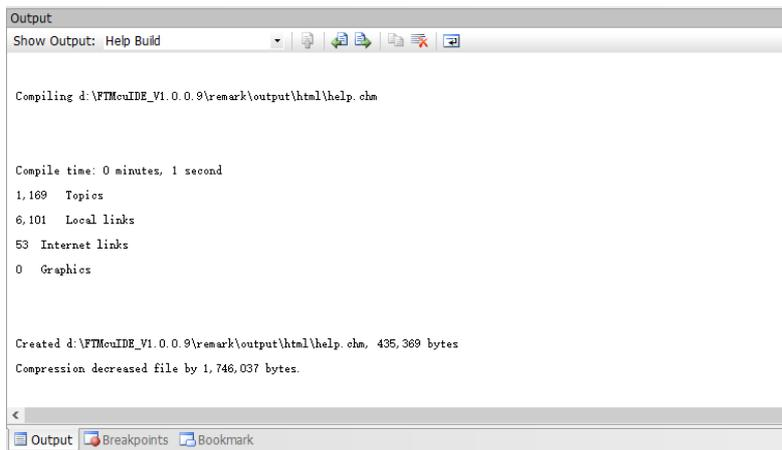

Figure 1-23
- Generate.chm: Click  or “Remark” → “Generate.chm” to generate .chm help files. The Output window displays the compilation process and results of the generated help files, as shown in Figure 1-23.